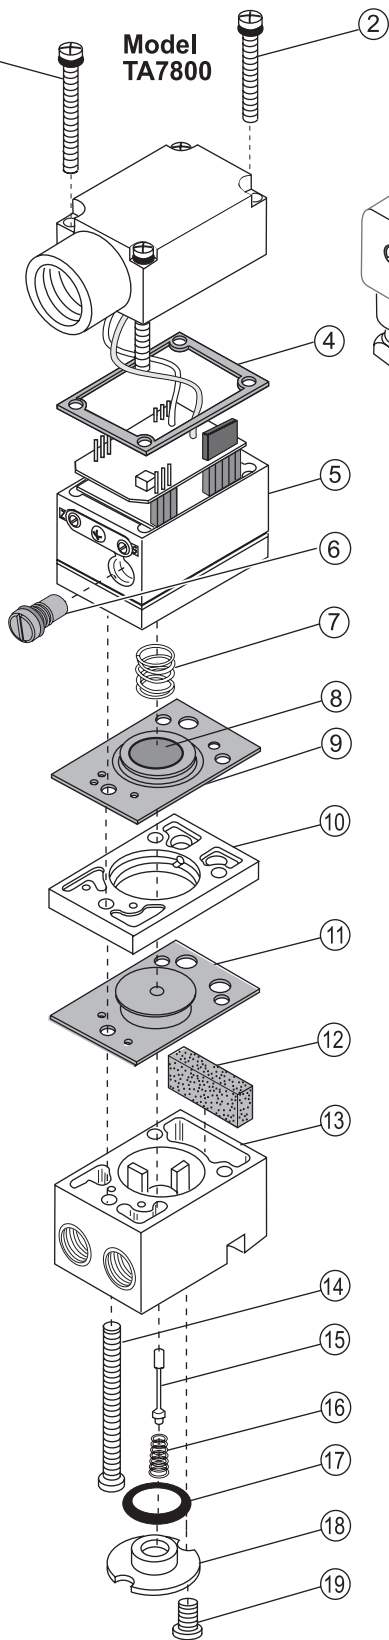

Figure 11. Exploded Drawing
2. Remove the Orifice Assembly (6) from the unit. For more information, see Figure 11.